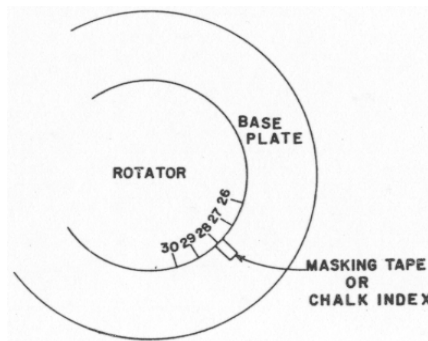

Figure 20. Deflection scale painted on 4.2-inch mortar rotator.
- (1) Mount the mortar on a level surface with the tube in the center of traverse.
- (2) Place a chalk or masking-tape index on the base plate (fig 20).
- (3) Paint a line on the rotator opposite the index (fig 20).
- (4) Change the deflection 100 mils by resetting the sight and shifting the bridge to lay back on the aiming point. Do not use the traversing handwheel.
(5) Paint a line at the point on the rotator that is now opposite the index.
(6) Repeat this operation until lines are painted at 100-mil intervals on the rotator throughout the desired limits (fig 20).